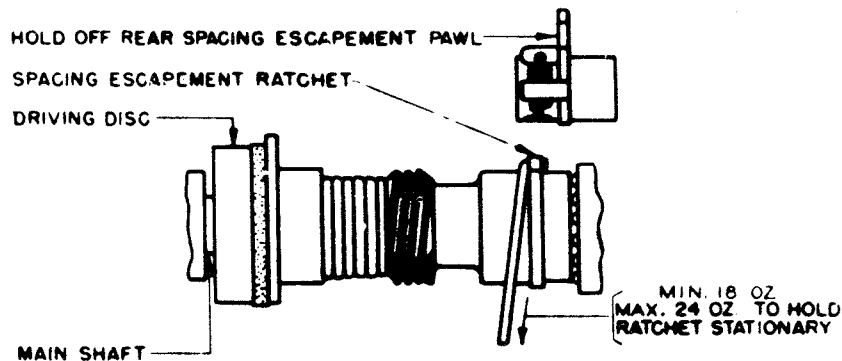

Figure 62
2.138 Spacing-clutch Torque: After the motor has run for at least 10 minutes, a pull of minimum 18 ounces, maximum 24 ounces, applied to the spacing-escapement-ratchet tooth horizontally toward the rear of the typing unit should be required to hold the ratchet stationary with the motor running, the carriage-return lockbar tied in the latched position (carriage free to move) and the rear spacing-escapement pawl held clear of the ratchet. See Figure 62.